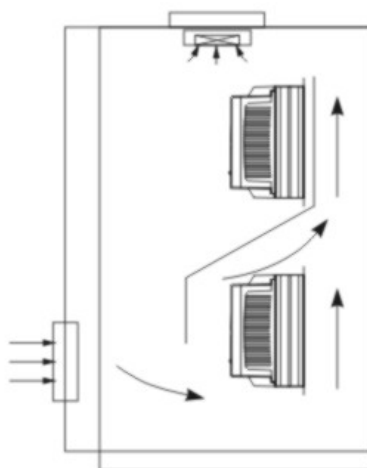

Fig.3-2 Installation of multi inverters
Note: When the inverter is installed vertically, please mount a heat-insulated baffle shown as Fig.3-2. Please pay attention to the following points about heat emission when performing the mechanical installation.
1)The inverter should be installed vertically, which enables the heat to emit upwards easily, but it should not be mounted reversely. If many inverters need to be installed in a cabinet, you'd better install them side by side. If the inverters need the top and bottom installation, please mount a heat-insulated baffle shown as Fig.3-2.